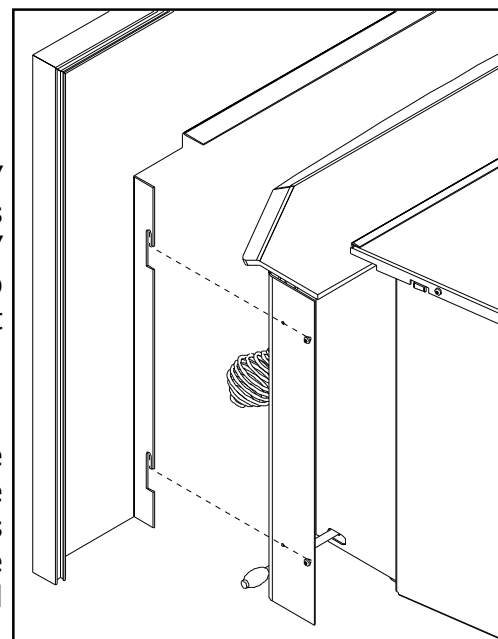

Figure 49: Installation of Panel.
There are two (2) hooks on either side of the inside of the panel. Line up the openings on the hooks with the screws on the outside of either shroud (see Figure 49). Push the surround in and push it down into place.